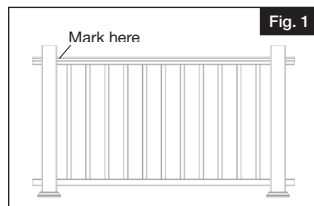

Fig. 1
- Place rail panel across opening and adjust to ensure equal baluster spacing on each end (Fig 1). Mark the rail panel at the post face at all four locations shown in figure.